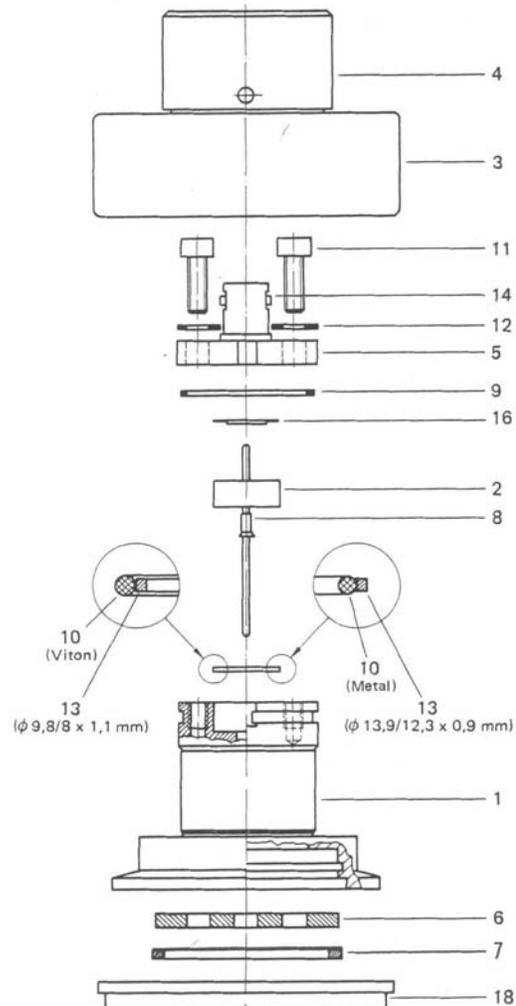

Fig. 6
8.1 Disassembly and cleaning of the gauge head (Fig. 6)
8.2 Reassembly (Fig. 6)